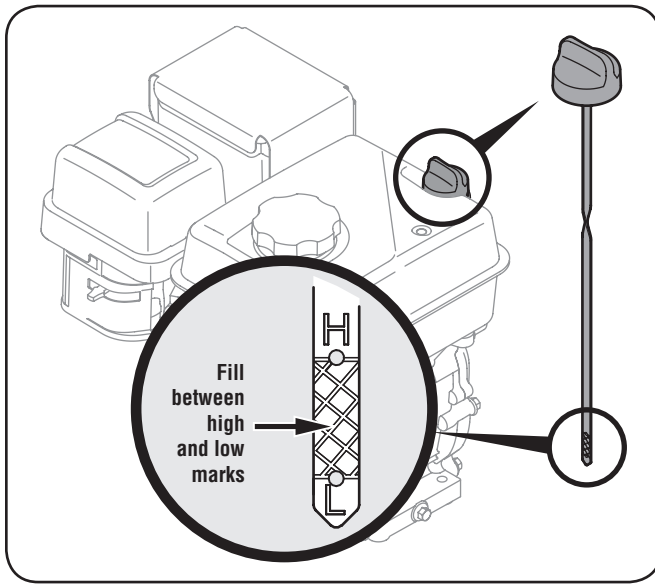

Figure 3-3
- Keep oil level between “H” and “L” marks on dipstick. See Figure 3-3.
1. Remove the oil filler cap/dipstick and wipe the dipstick clean. See Figure 3-3.
3. Remove the oil filler cap/dipstick. If the level is low, slowly add oil until oil level registers between high (H) and low (L), Figure 3-3.